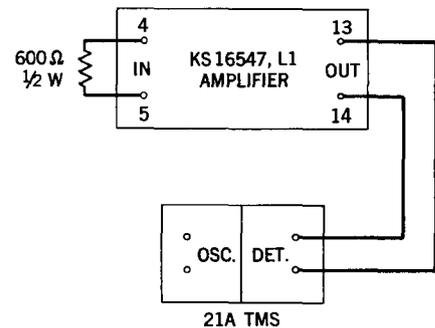

Fig. 2 - Test Setup for Noise Test
6.01 The amplifier noise should be measured in accordance with the test setup shown in Fig. 2. A DET (TMS) is used to measure the unweighted noise instead of the 2B or 3A Noise Measuring Set for the sake of convenience. The readings obtained are arbitrary readings and
2	Connect circuit as shown in Fig. 2.